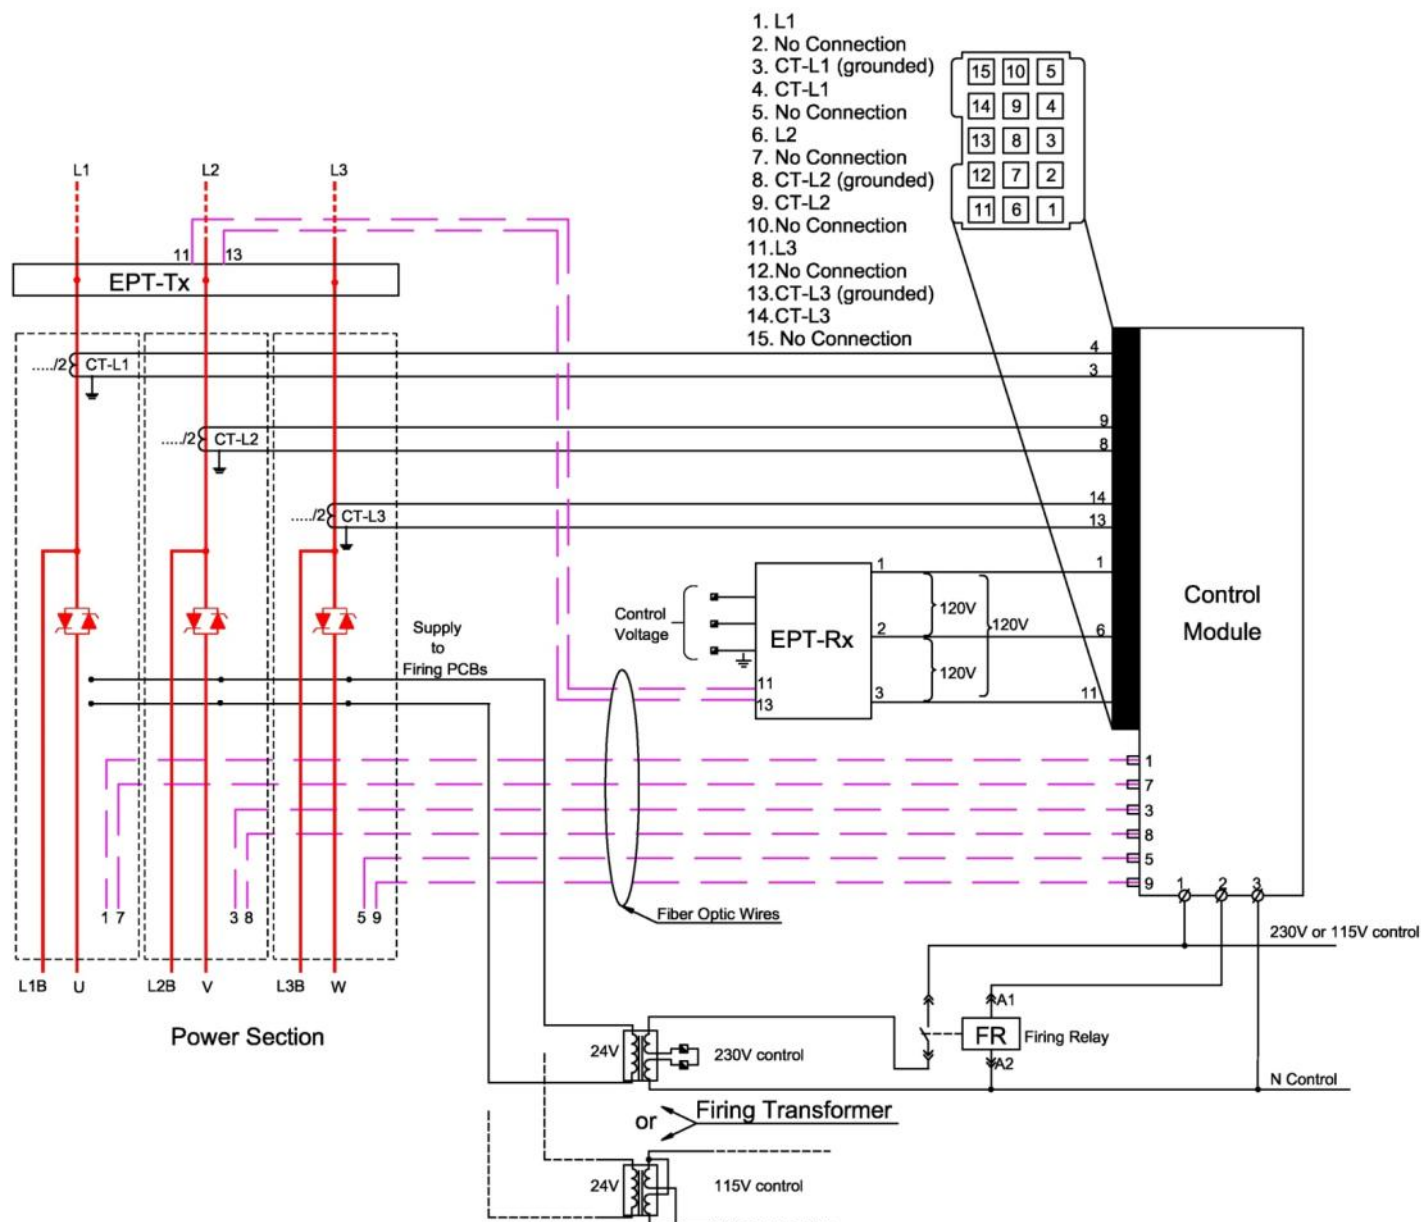

Figure 9 – Typical Connection of HRVS-DN IP00 Unit (OEM Kit)
- Figure 9 shows a typical connection of an HRVS-DN IP00 unit (OEM kit) of up to 6.6kV with a control voltage of 115/230VAC. For connection diagrams for other models consult the factory.